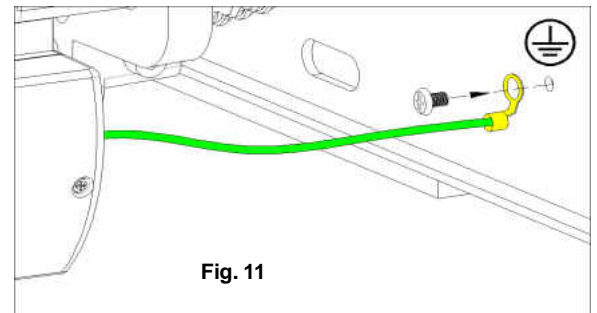

Fig. 11
Connect the power cable inside the limit switch as shown in Figure 10 with the proper cable arrangement. Lock the power cable by tightening the cable-glands (P). Connect the earth cable to the bracket of transmission as indicated in Figure 11.